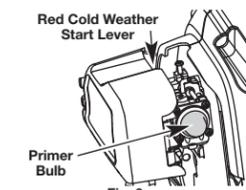

Fig. 6
IF COLD... In cold weather conditions (below 40°F), push the red cold weather start lever (Fig. 6) down to the closed position and continue to step 3. **DO NOT** push this lever down if the temperature is above 40°F.
IF COLD... In cold weather conditions (below 40°F), pull the red cold weather start lever back up to the open position after the unit starts (Fig. 6).
3. Fully press and release the primer bulb 10 times, slowly. Some amount of fuel should be visible in the primer bulb (Fig. 6). If fuel cannot be seen in the bulb, press and release the bulb until fuel is visible.
5. Press and hold the ON (I) button of the Electric Starter or Power Start Bit™ equipped drill in intervals no longer than 2 seconds each until the unit starts.